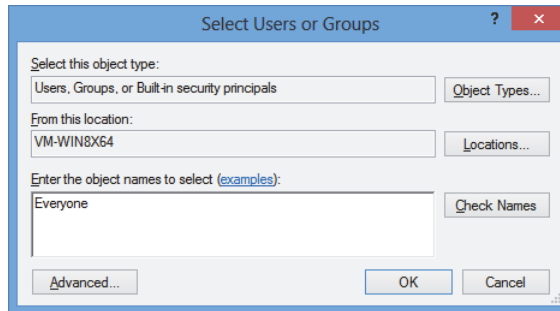

Figure 2-16 The Select Users or Groups dialog box
15. In the **Select Users or Groups** dialog box, in the **Enter the object names to select** box, type **Everyone**, and then click **OK** (see Figure 2-16 on page 42).